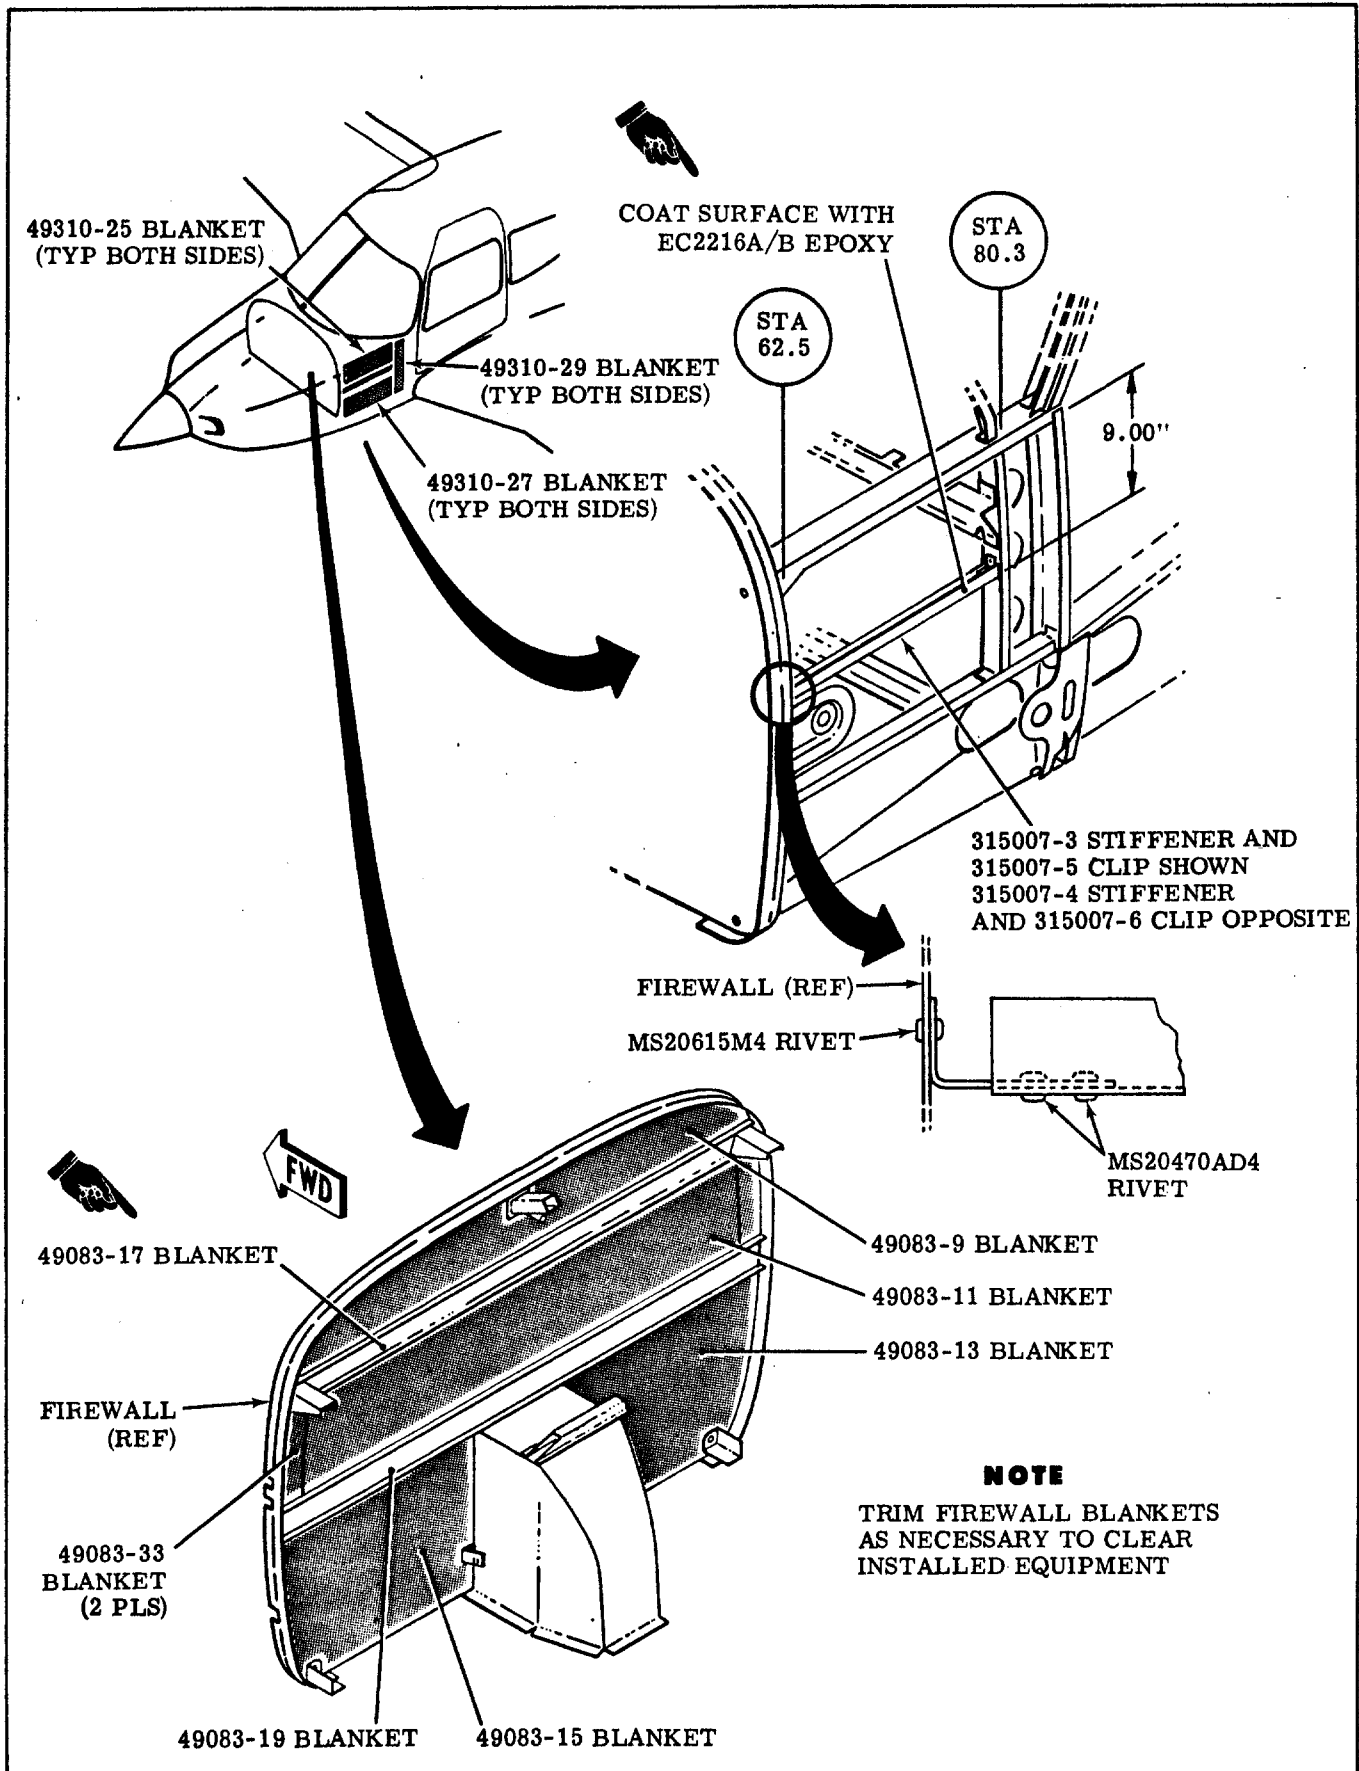

Figure 2.
3. Install 315007-3 and -4 stiffeners and 315007-5 and -6 clips as shown in Figure 2.
4. Cut and trim 49083 blankets as required to clear equipment installed on aft side of engine firewall (see Figure 2.).
7. Apply EC1403 adhesive to trimmed blankets and attach to fuselage skin (see Figure 2.).